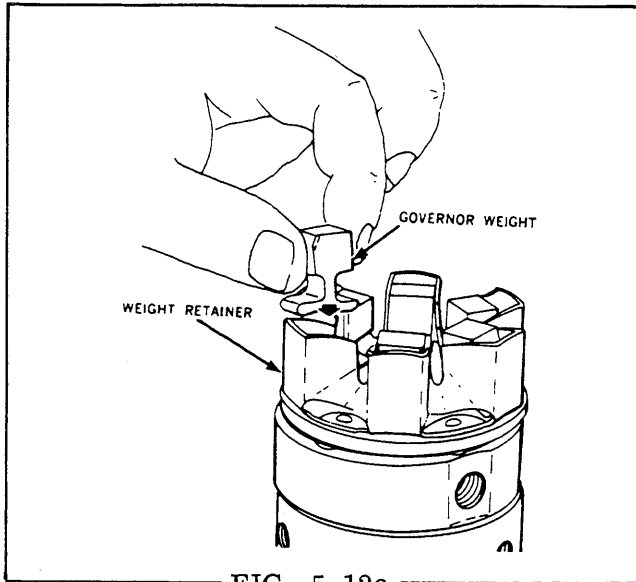

FIG. 5.12a
STEP 12 Remove the head and rotor assembly from the fixture. Position the governor weights into the retainer sockets (Fig. 5.12a).